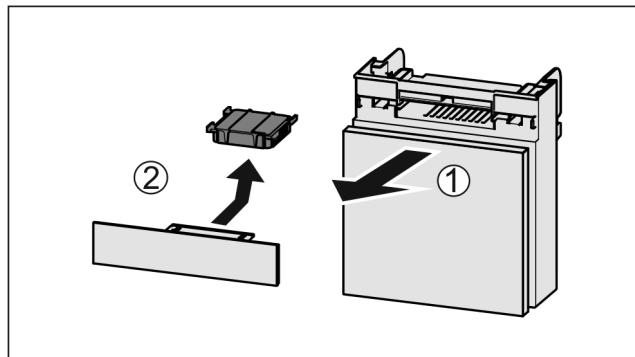

Fig. 177
- ▶ Pull out the compartment Fig. 177 (1).
- ▶ Remove the carbon filter Fig. 177 (2).